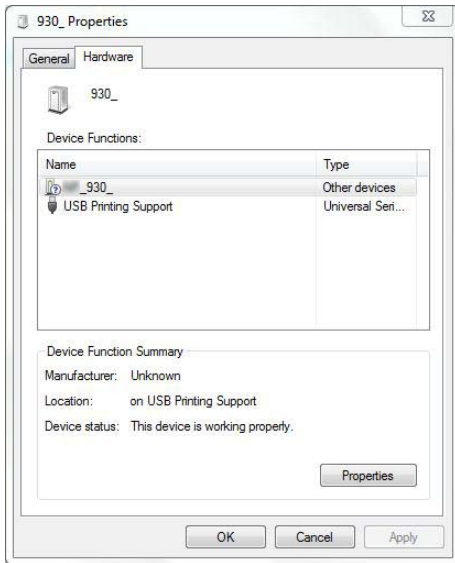

Figure 35: Properties of unspecified device
- Go to the tab “Hardware” and see the listed device functions (see Figure 35). Double-click on the printer (Type: Other devices); another properties window will open.